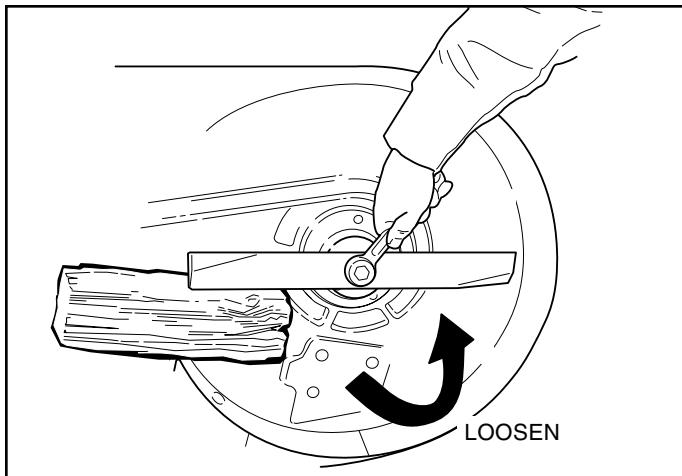

Figure 17. Removing The Blade
3. To remove blade for sharpening, use wooden block to hold blade while removing the blade mounting cap-screw (figure 17).